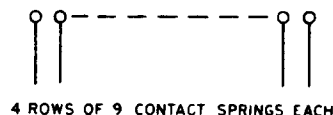

Fig. 12—388A or B Plug
2.12 **388A and B:** The 388A and B plugs (Fig. 12) are used with the left half and right half, respectively, of the jack assembly on the 214A selector on the 1A Translator.